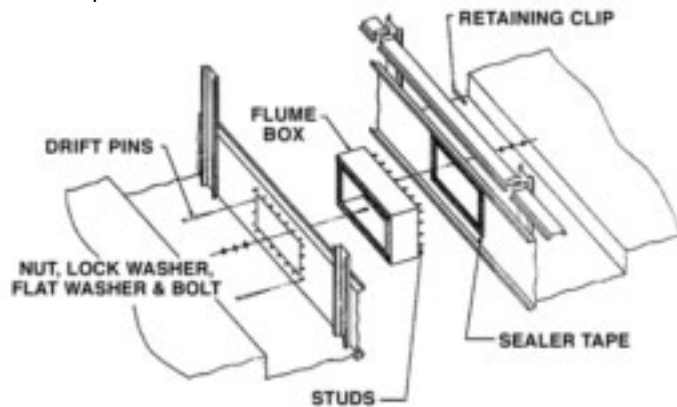

Figure 3 – Flume Assembly
2. Mating flanges which will make contact with others should be cleaned to remove dirt, grease and moisture. Apply a layer of sealer tape on one side panel centered over the flume box holes as shown in Figure 3. Remove paper backing strip from the sealer tape.
9. Remove the 1/4" bolts which hold the drip channel retaining clips to the side panel. Place the drip channel over the adjoining pan section flanges. Turn around the retaining clips and re-install them using the same hardware. See Figures 3 & 5.